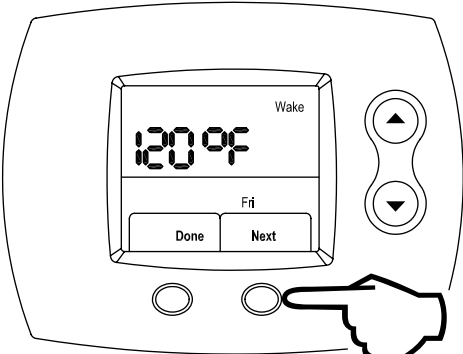

Figure 126
Step 9: Press the **RIGHT** (Next) button to lock in the Wake period water temperature, as shown in Figure 126. Now, the Wake time period is set for the day being edited.